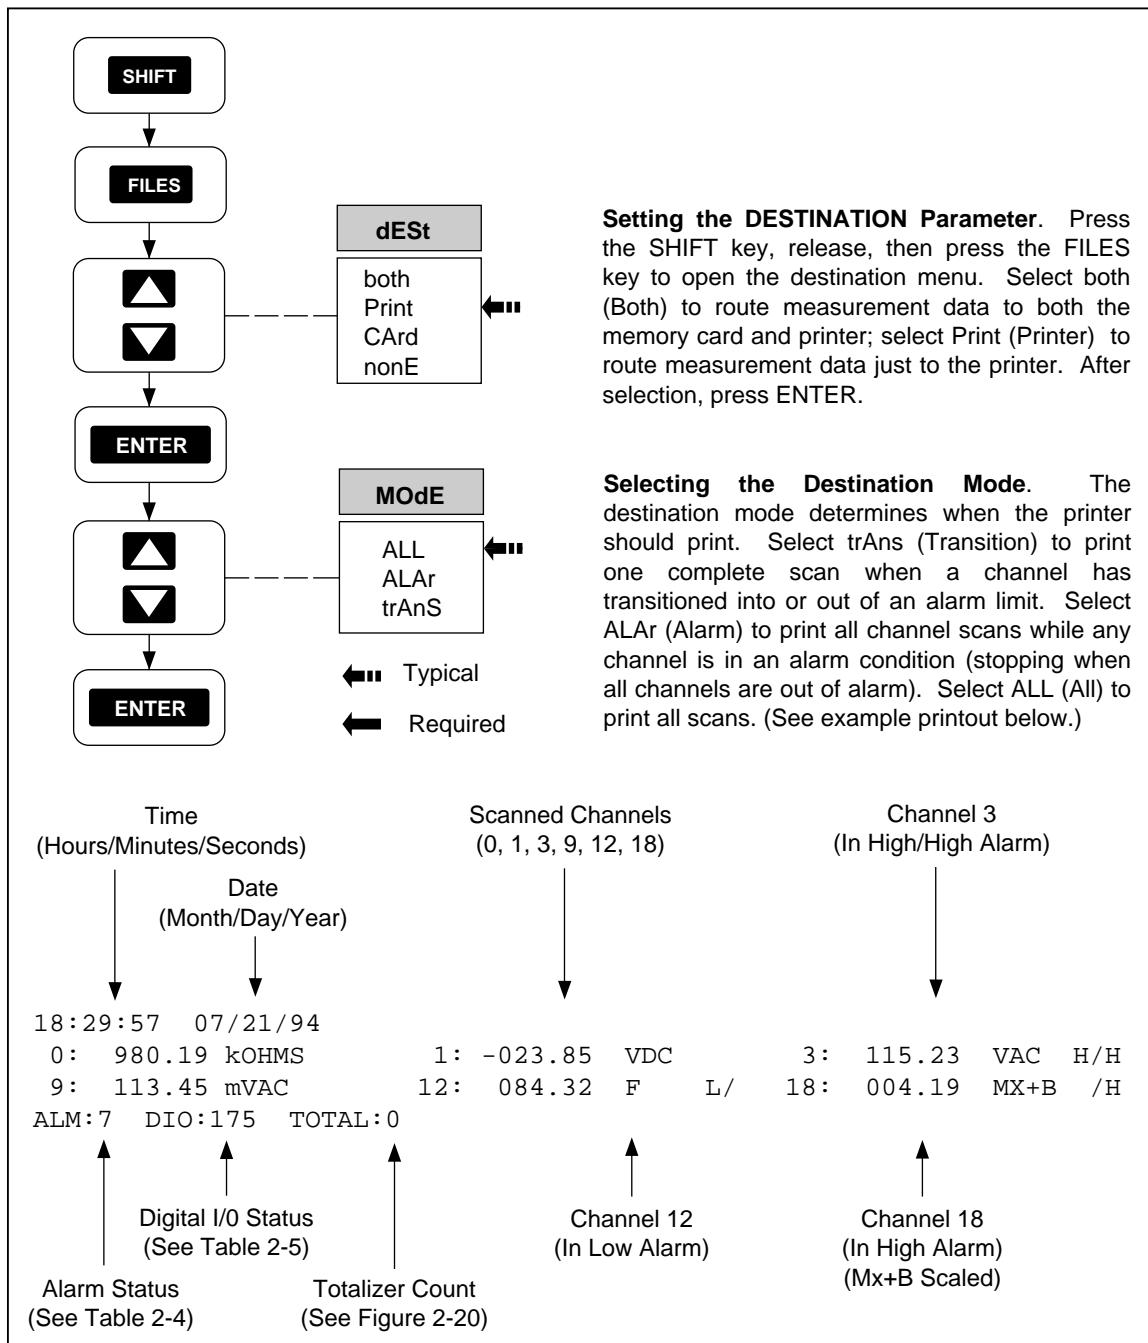

Figure 5-3. Printing Measurement Results During Scanning
Correct operation of the instrument RS-232 link with a printer depends on the link parameters baud rate, parity, and CTS (Clear To Send). Perform the procedure in Figure 5-3 to establish communication link parameters. Refer to your printer manual for information on selecting identical parameters for the printer, usually through the setting of DIP (dual in-line package) switches (with the printer unpowered). The instrument uses a fixed one start bit and one stop bit.
- Printing Measurement Results During Scanning (Figure 5-3)
Perform the procedure in Figure 5-3 to print measurement results during scanning. The destination for the scanned data can be the printer, memory card, both the printer and the memory card, or no destination, where the data is saved only in the Review array. The mode for the printing to the printer or memory card can be all scanned data, scanned data only when any scanned channel is in alarm, or scanned data only when an alarm transitions from one alrm stat to another.